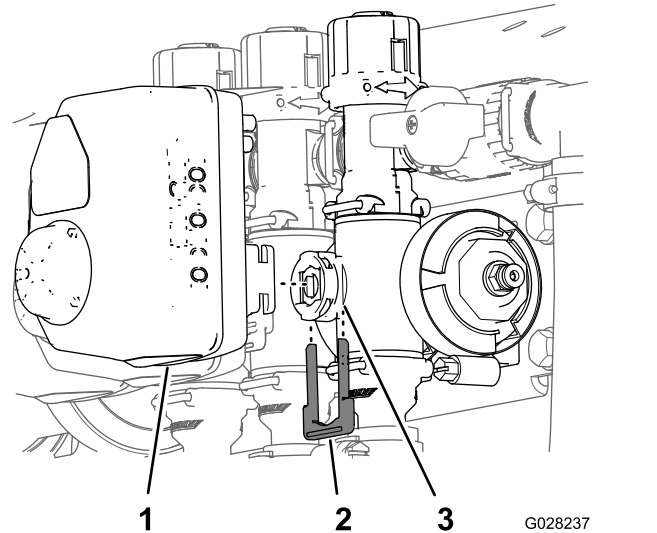

Figure 87
3. Remove the retainer that secures the a actuator to the manifold valve for the rate control, agitation, master boom, or boom section valve (Figure 87).